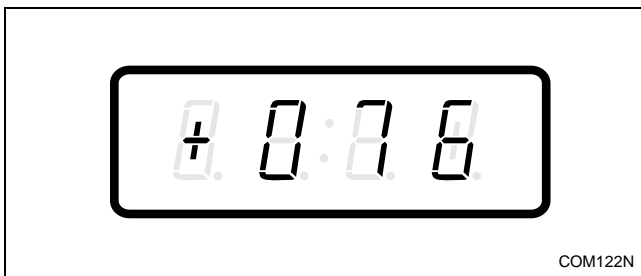

Figure 97
3. Press the DELICATES (+) or the COLD (-) keypad to scroll through the programmable options until “+076” appears in the VFD. Refer to *Figure 97*.